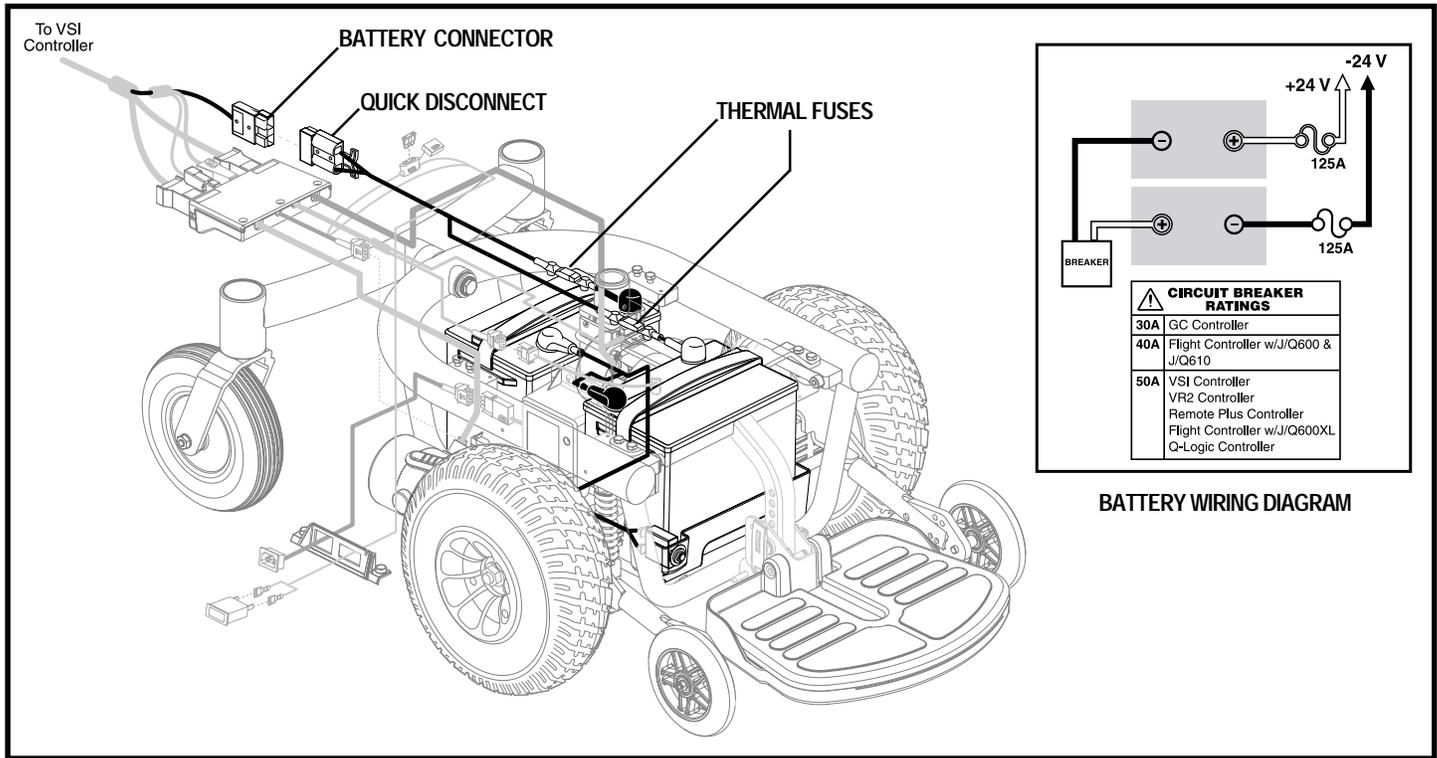

Figure 29. Jazzy 1103 Ultra Battery Connections
A battery wiring diagram is printed on a decal located on the battery tray. See figure 29. See VI. “Batteries and Charging” for correct battery specifications.
5. Unplug the battery connector. See figure 29.
18. Connect the wiring harnesses to the front battery. See figure 29.
19. Connect the wiring harnesses to the rear battery. See figure 29.